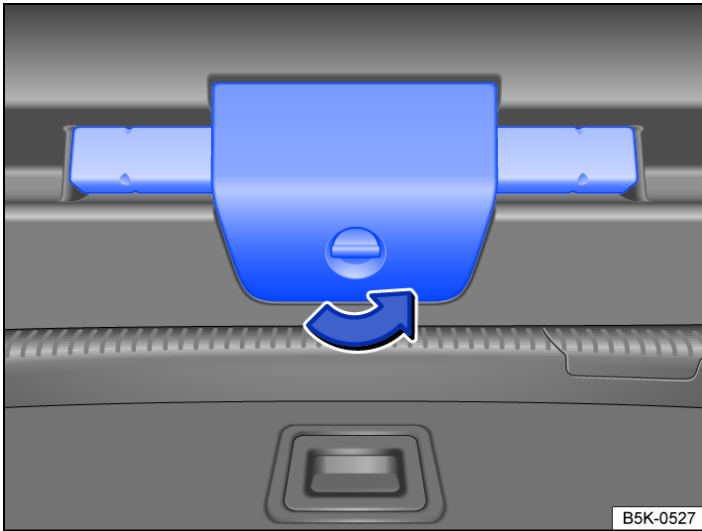

Fig. 1 In the tailgate: opening the warning triangle holder.
- Turn the lock of the warning triangle holder 90° anticlockwise → *Fig. 1*.